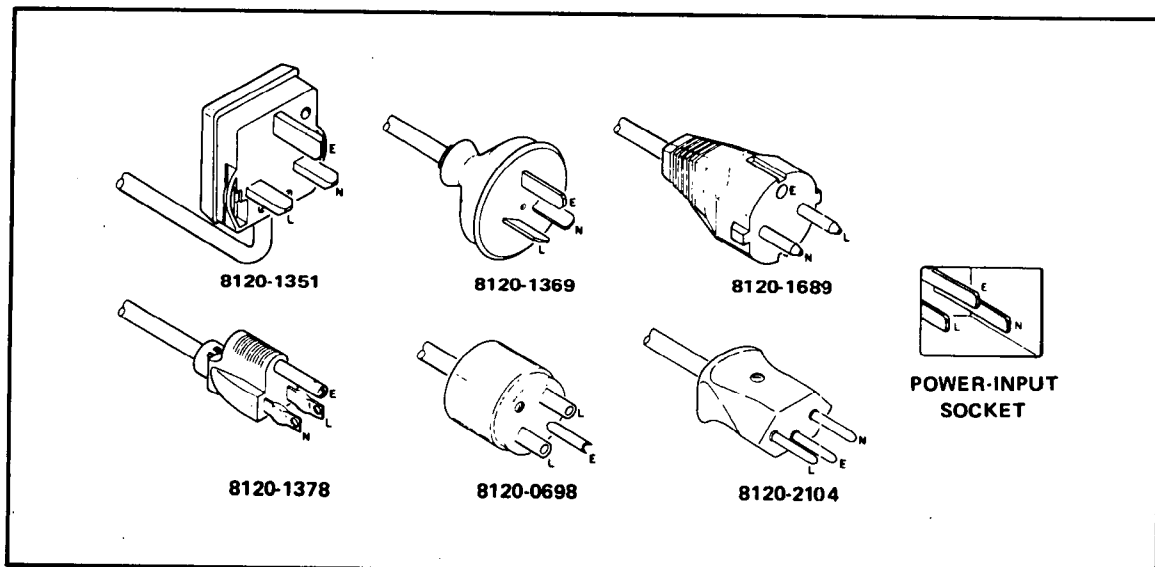

Figure 2-2. Power Cable HP Part Numbers versus Mains Plugs Available
- a. Depending on the customer's country, the line power cable supplied has one of six appropriate line (mains) connectors. Refer to *Figure 2-2, Power Cable HP Part Numbers Versus Mains Plugs Available*, for the part number of the correct cable.
2-13. The 5005B is shipped with a three-wire power cable. When the cable is connected to an appropriate ac power source, this cable connects the instrument chassis to earth ground. The type of power cable plug shipped with each instrument depends on the country of destination. Refer to *Figure 2-2* for the part numbers of the power cable and plug configurations available.